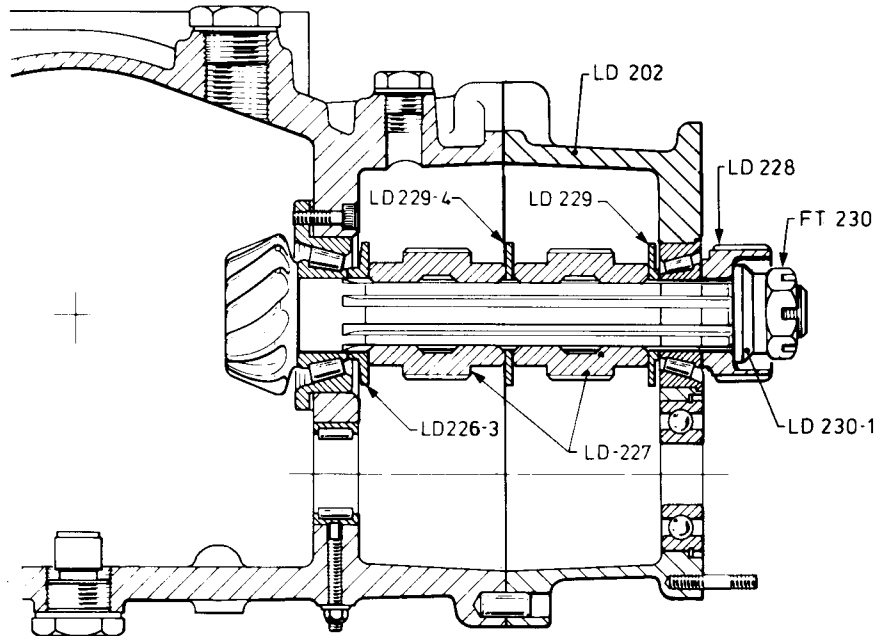

Fig. 6
- a) Assemble pinion shaft into the bearings with the hubs and spacers as shown in Fig. 6 (4 speed) or Fig. 7 (5 speed).